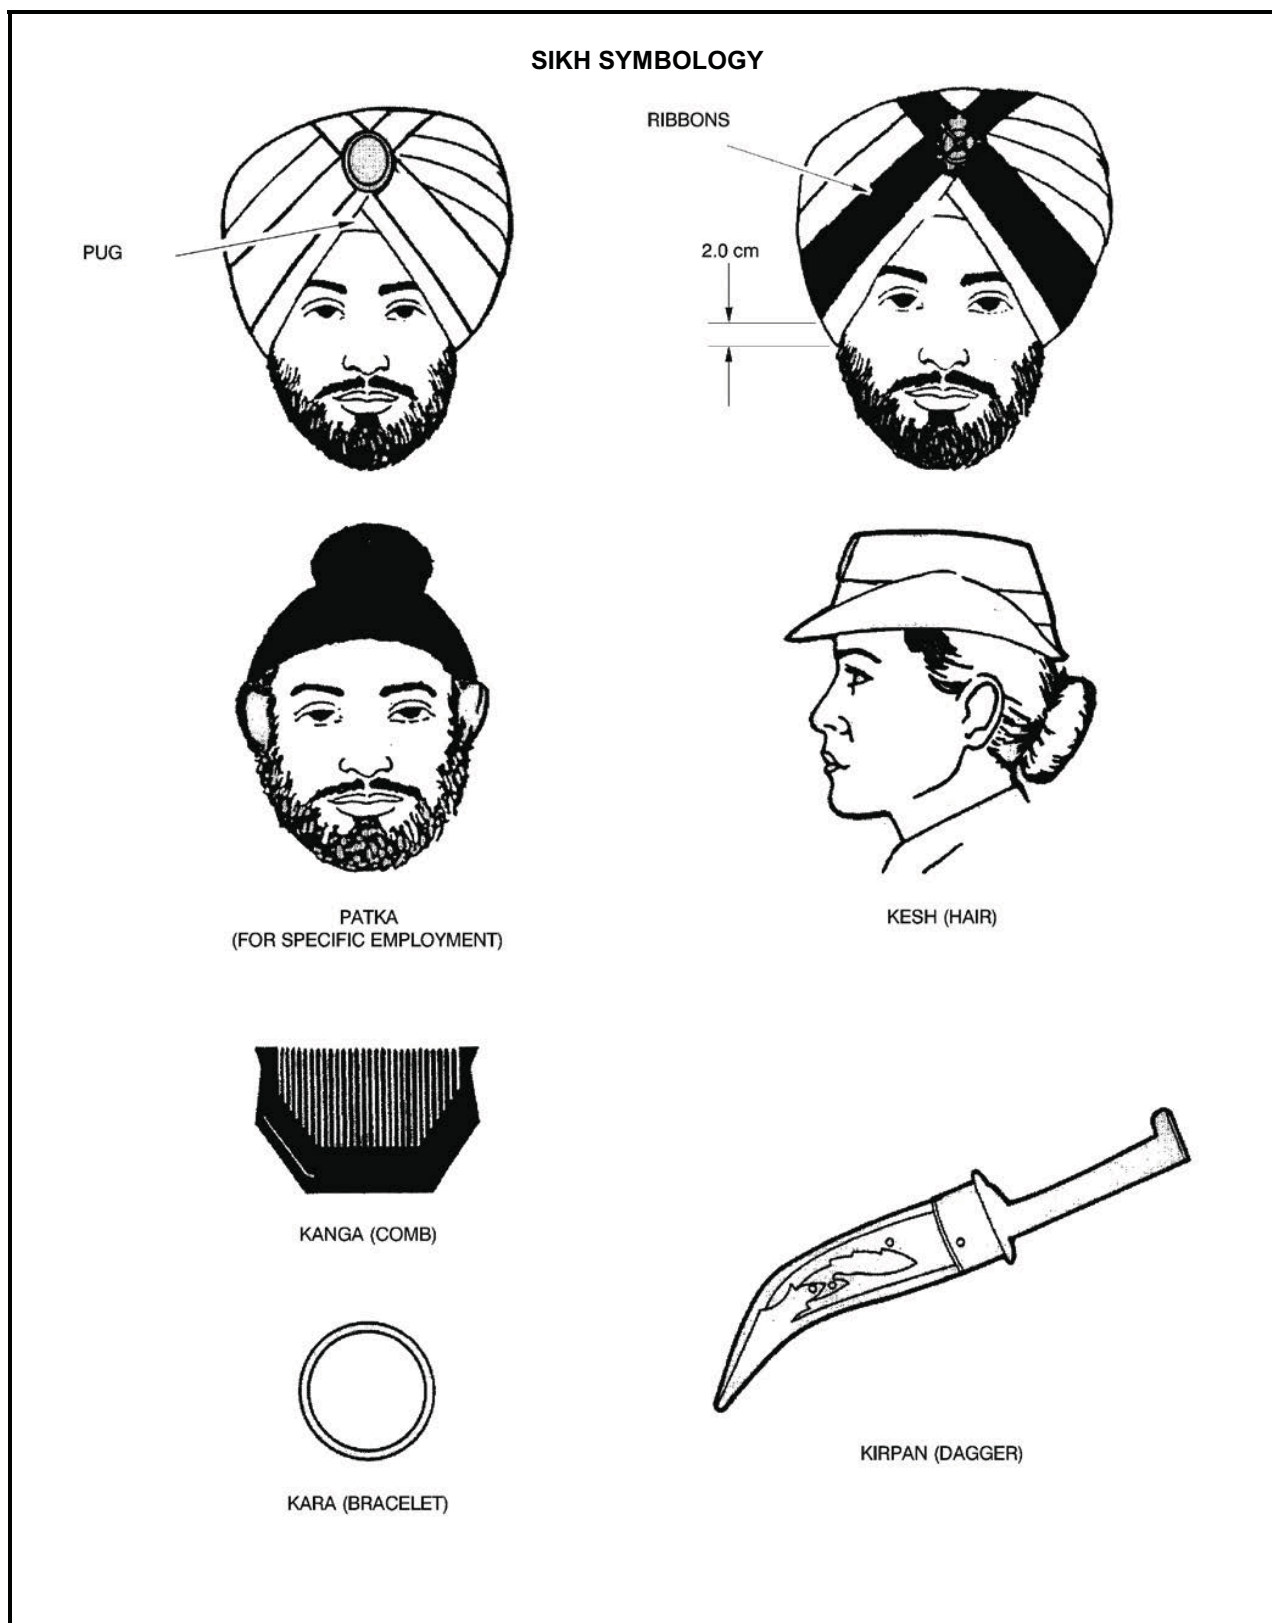

Figure 2-3-1 Authorized Sikh Items of Wear
- 18. Crossed ribbons may be worn on the Navy, army and air force turbans in accordance with branch/regimental customs as illustrated in Figure 2-3-1.
- 20. The pug (see Figure 2-3-1) shall be the same colour as the turban.
- c. **Patka.** A traditional Sikh cloth head-covering worn when a turban is not suitable, such as under combat, flying or diving helmets, or during sports or strenuous physical activity (see Figure 2-3-1).